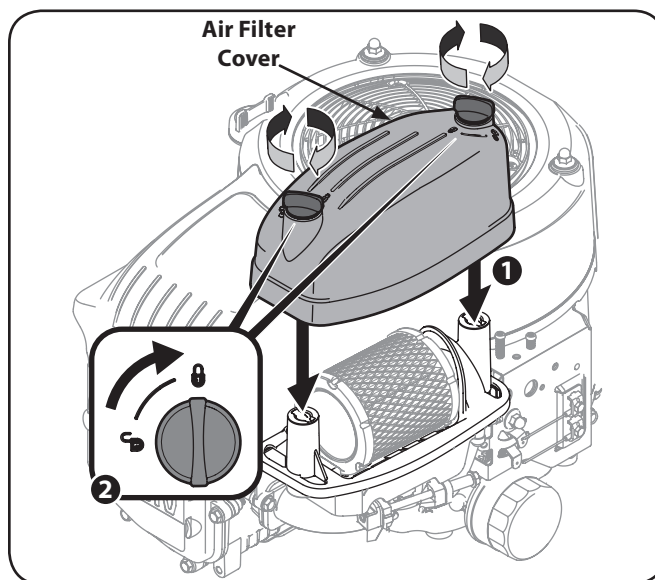

Figure 6-8
7. Attach the air filter cover. See Figure 6-8. Turn thumb screws clockwise a 1/4 turn until snug. Check for any misalignment.